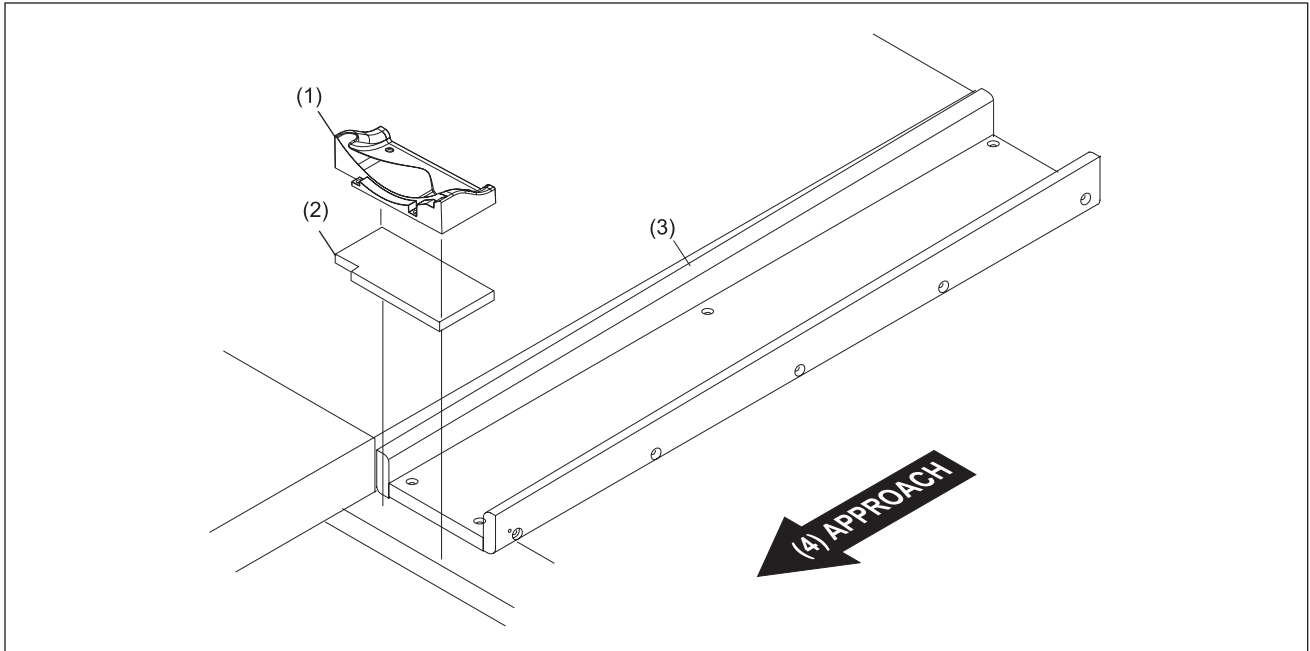

Figure 18. Install Flat Gutters
3. Cut to fit the pit end of the fourth gutter section to accommodate the transition (flat gutter) block (P/N 84-200456-000) and kickback. Refer to *Figure 18*.
4. Install flat gutter spacer (P/N 84-200556-000, part of package number 84-860621-000) against pit end of gutter (notch in wood spacer toward the lane). Secure spacer with wood 2-1/2" screws. Refer to *Figure 18*.